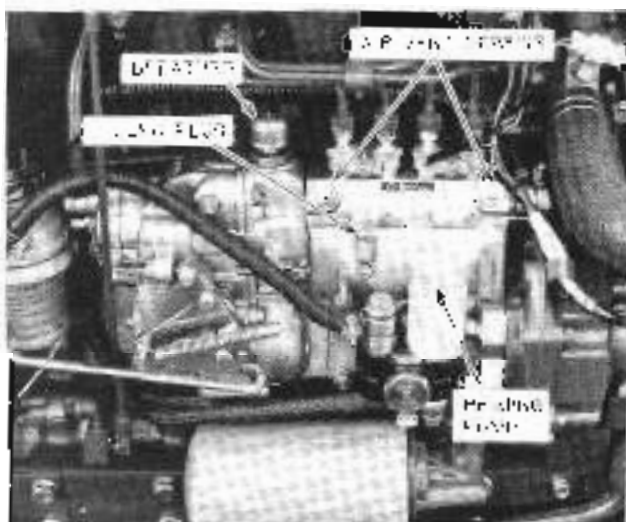
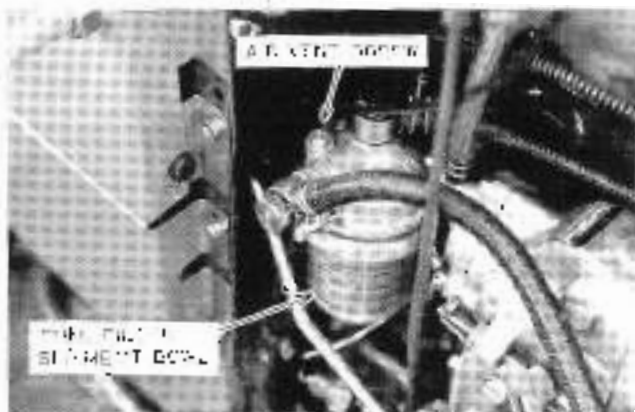

Figure 38 - Fuel Injection Pump
Figure 39 - Fuel Filter
2. Loosen the fuel filter air vent screw, Figure 39, on top of the filter. Bleed the filter by activating the priming pump plunger, Figure 38, and sucking fuel from the filter, then tighten the air vent screw.
3. Loosen the injection pump air vent screws, Figure 38, and activate the priming pump plunger to draw air-free fuel from the screws, then tighten the screws.